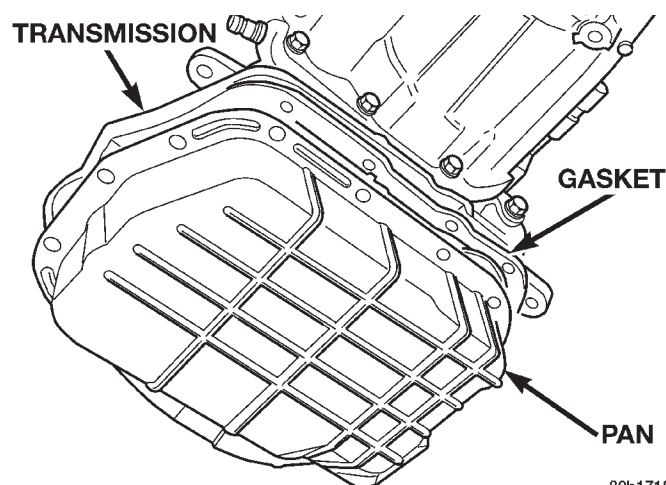
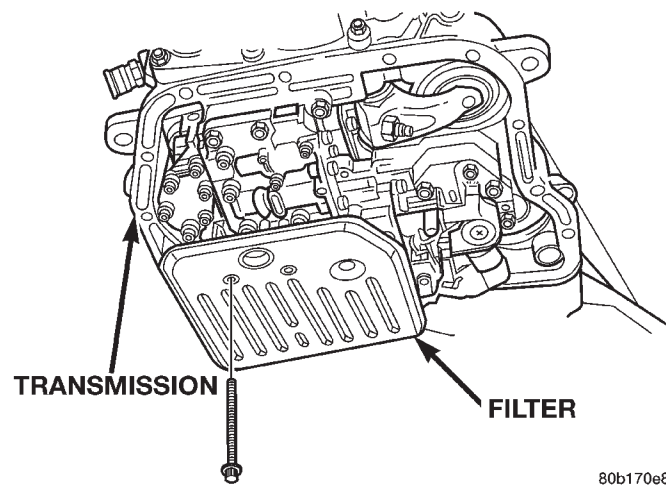

Fig. 12 Transmission Pan
Fig. 13 Transmission Filter
- (1) Hoist and support vehicle on safety stands.
- (2) Place a large diameter shallow drain pan beneath the transmission pan.
- (3) Remove bolts holding front and sides of pan to transmission (Fig. 12).
- (4) Loosen bolts holding rear of pan to transmission.
- (5) Slowly separate front of pan away from transmission allowing the fluid to drain into drain pan.
- (6) Hold up pan and remove remaining bolt holding pan to transmission.
- (7) While holding pan level, lower pan away from transmission.
- (8) Pour remaining fluid in pan into drain pan.
- (9) Remove screws holding filter to valve body (Fig. 13).
- (10) Separate filter from valve body and pour fluid in filter into drain pan.
- (11) Dispose of used trans fluid and filter properly.
(1) Place replacement filter in position on valve body.
(2) Install screws to hold filter to valve body (Fig. 13). Tighten screws to 4 N·m (35 in. lbs.) torque.
(3) Place new gasket in position on pan and install pan on transmission.
(4) Place pan in position on transmission.
(5) Install screws to hold pan to transmission (Fig. 12). Tighten bolts to 17 N·m (150 in. lbs.) torque.
(6) Lower vehicle and fill transmission with Mopar® ATF Plus 3, type 7176 fluid.